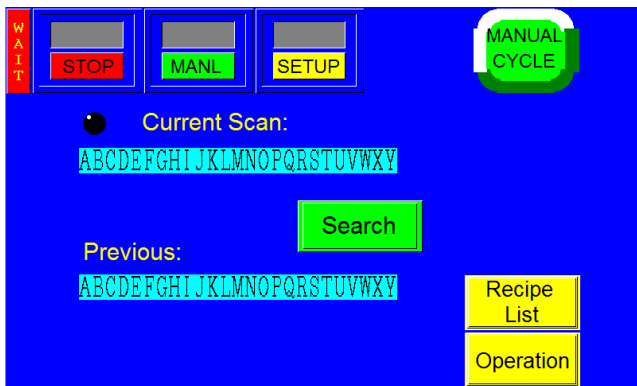

Figure 3-45
**To recall a job from External Memory:** Press **Job Search** from the **Main Menu** to access the Job Search screen. From there either scan (if you have a bar code reader option) or enter the job name using the keypad, (accessed by pressing the area under the heading “Current Scan”) and press <Search>, see Figure 3-45. This will access a screen